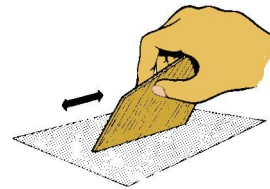

Figure 4
- **Step 4** Round over the outer edges of all six fins with 400-grit paper, except for the root edges. As shown in Fig. 4, square up the root edges of all six fins to allow them to fit properly against the body tube.